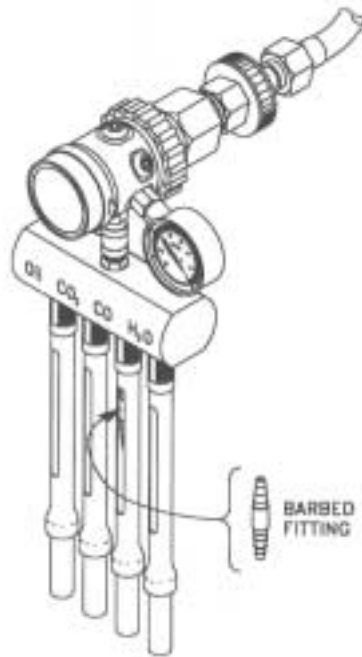

Figure 3, O₂ Measuring Connection
m. To measure oxygen, insert the straight barbed fitting of Dräger breathing air test kit into CO tube holder as shown in Figure 3.